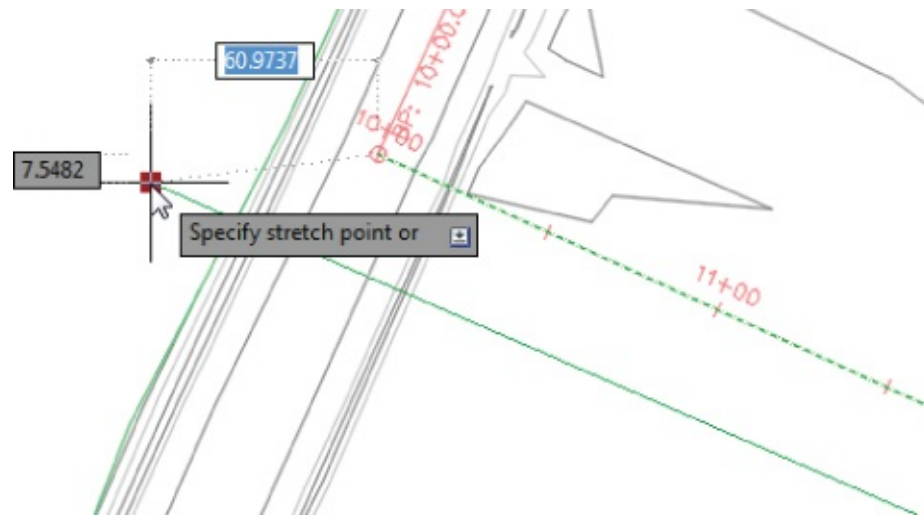

Figure 7.13 Grip-editing the alignment
29. Pick the alignment to activate the grips, and stretch the western end grip to lengthen and/or move the alignment, as shown in Figure 7.13.